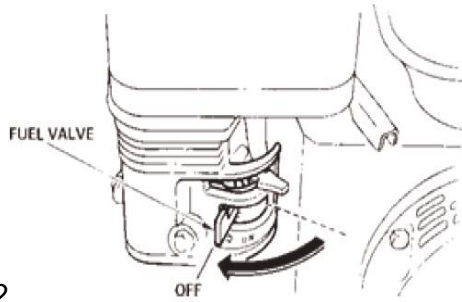

FIG.13
10.3 Close the fuel shut- off valve (FIG. 13) by moving the fuel valve lever to the OFF position.